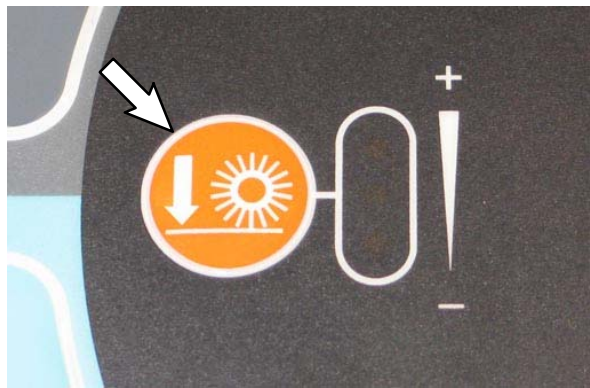

FIG. 6
2. Press the *Brush pressure button* to enter the machine configuration mode. (Fig. 6)